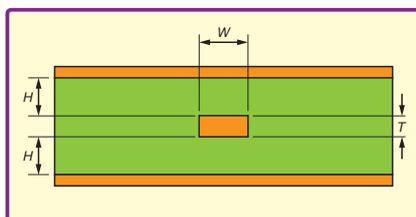

Fig.3. Cross section of a symmetrical stripline PCB trace
On boards with more than two layers, the signal trace can be run on an internal layer between two ground planes, this is known as a 'stripline', as shown in Fig.3. Like the microstrip, the stripline's geometry characteristics include the signal trace thickness and width (T , W) and the distance between
the ground planes and the signal (H). If both ground planes are the same distance from the signal then we have a symmetrical stripline, as in Fig.3, but, of course, asymmetrical striplines with two different H values can be created.